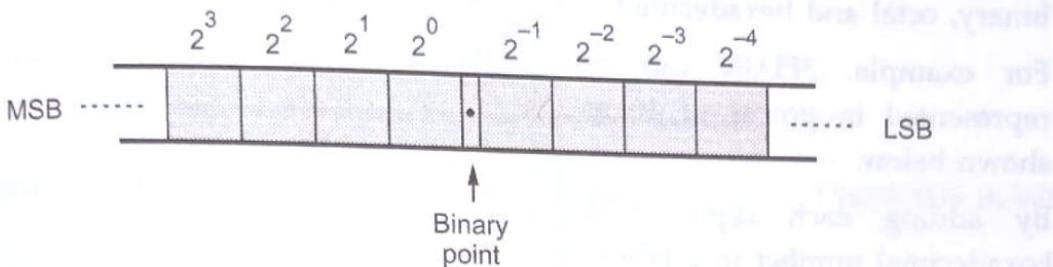

Fig. 2.2.2 Binary position values as a power of 2
- The Fig. 2.2.2 (a) shows representation of binary number 1101.101 in power of 2.